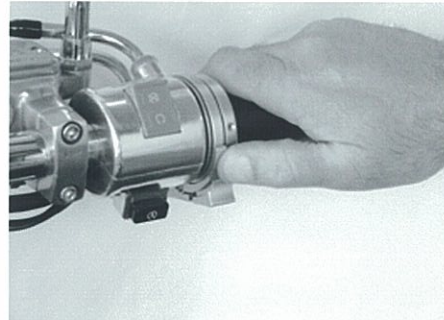

Figure 13
- 3.2** Release the cruise control to the off position by pushing the Manual Release Lever(19) forward. **(Figure 13)**